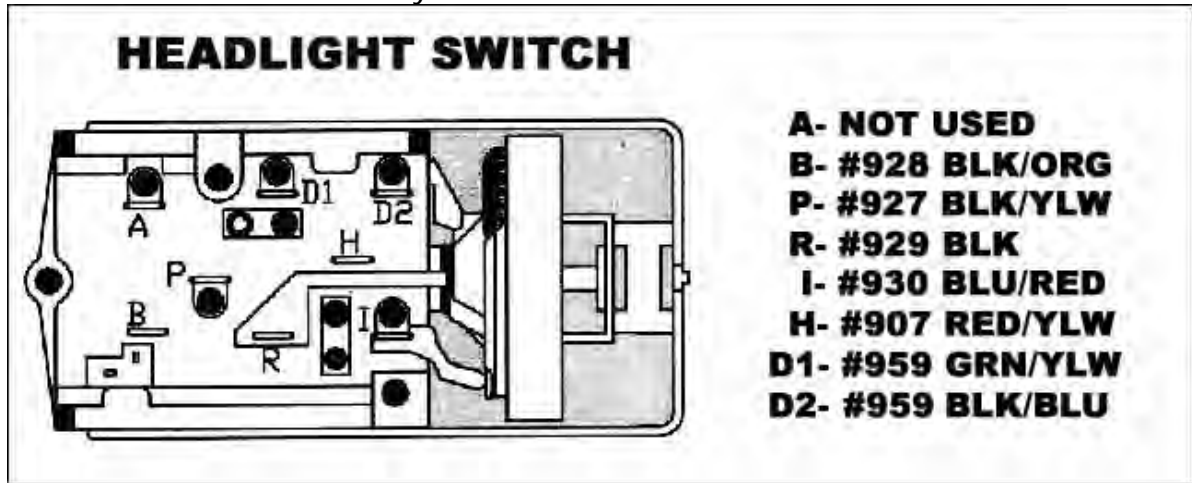

Figure 7-14 Headlight Switch Connections
7.8.1 Connect the HEADLIGHT SWITCH wires as illustrated in **Figure 7-14**. Extra terminals have been provided in the parts kit to allow the customer to reuse their factory connector.